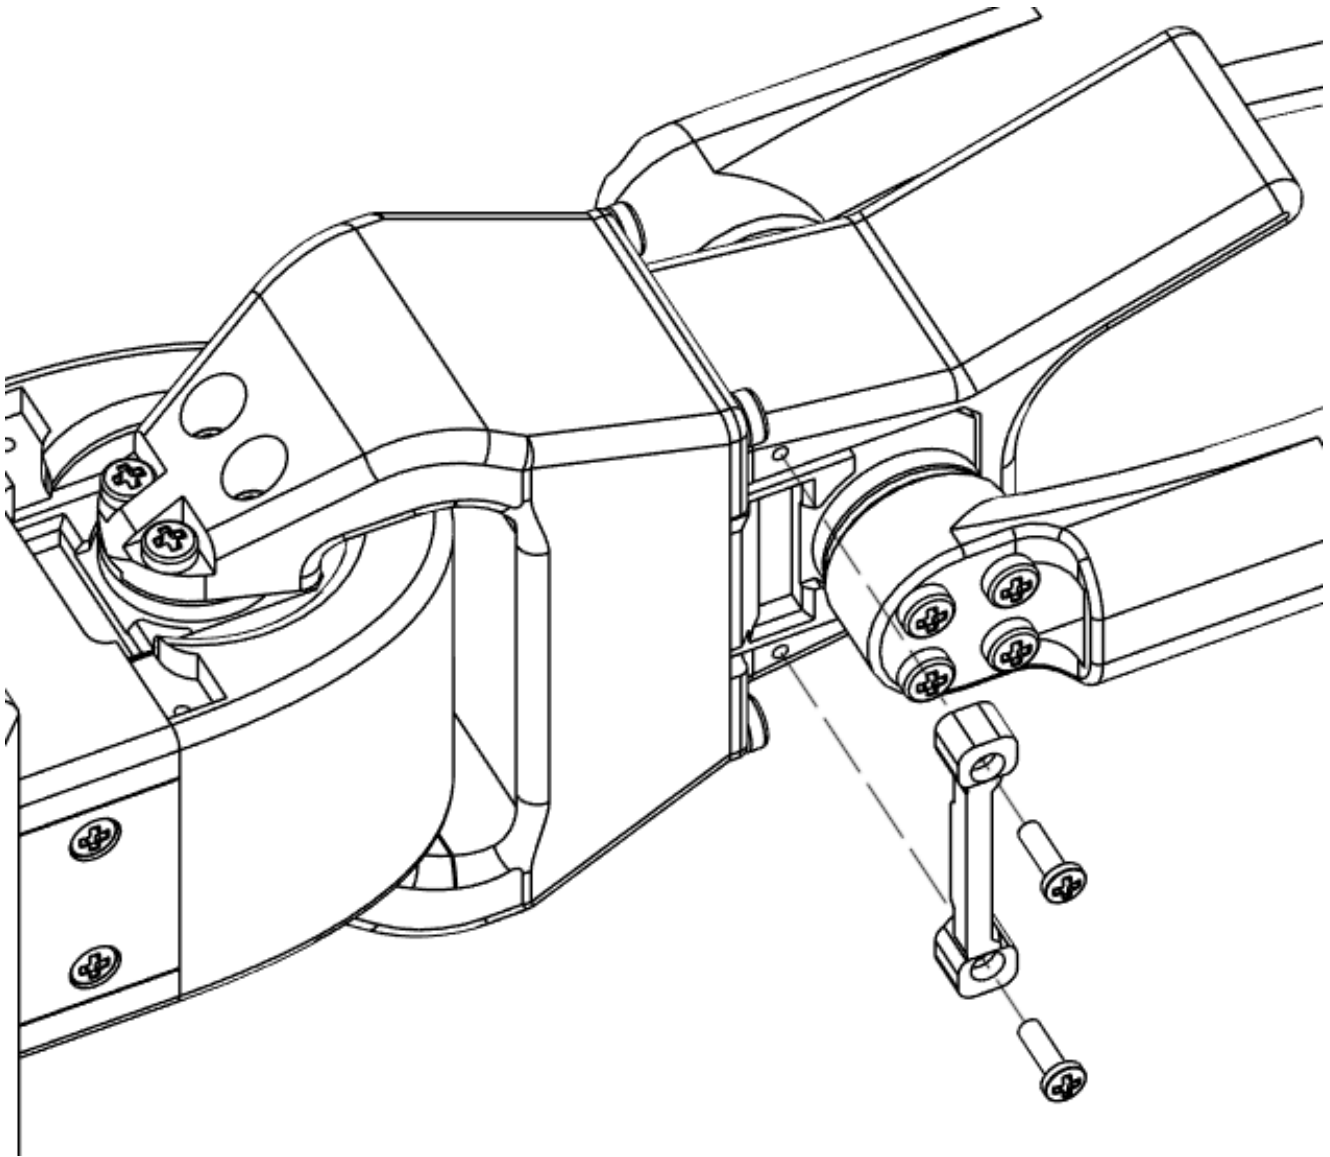

Figure 3.20 - Teleop Motor 2 Wire Clip Assembly
27. Fasten Teleop Motor 2 Wire Clip to Teleop Motor 2 Support as shown in Figure 3.20
- a. (2) M2x8mm
- b. **NOTE:** Arm Motor Wires not shown in Figure 3.20